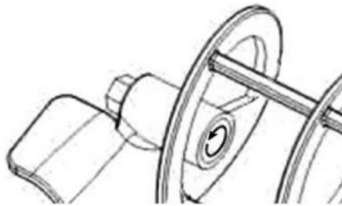

Fig.13
Replace gasket(A) once at least one year Using the grease provided, lubricate the seal A) see Fig.13